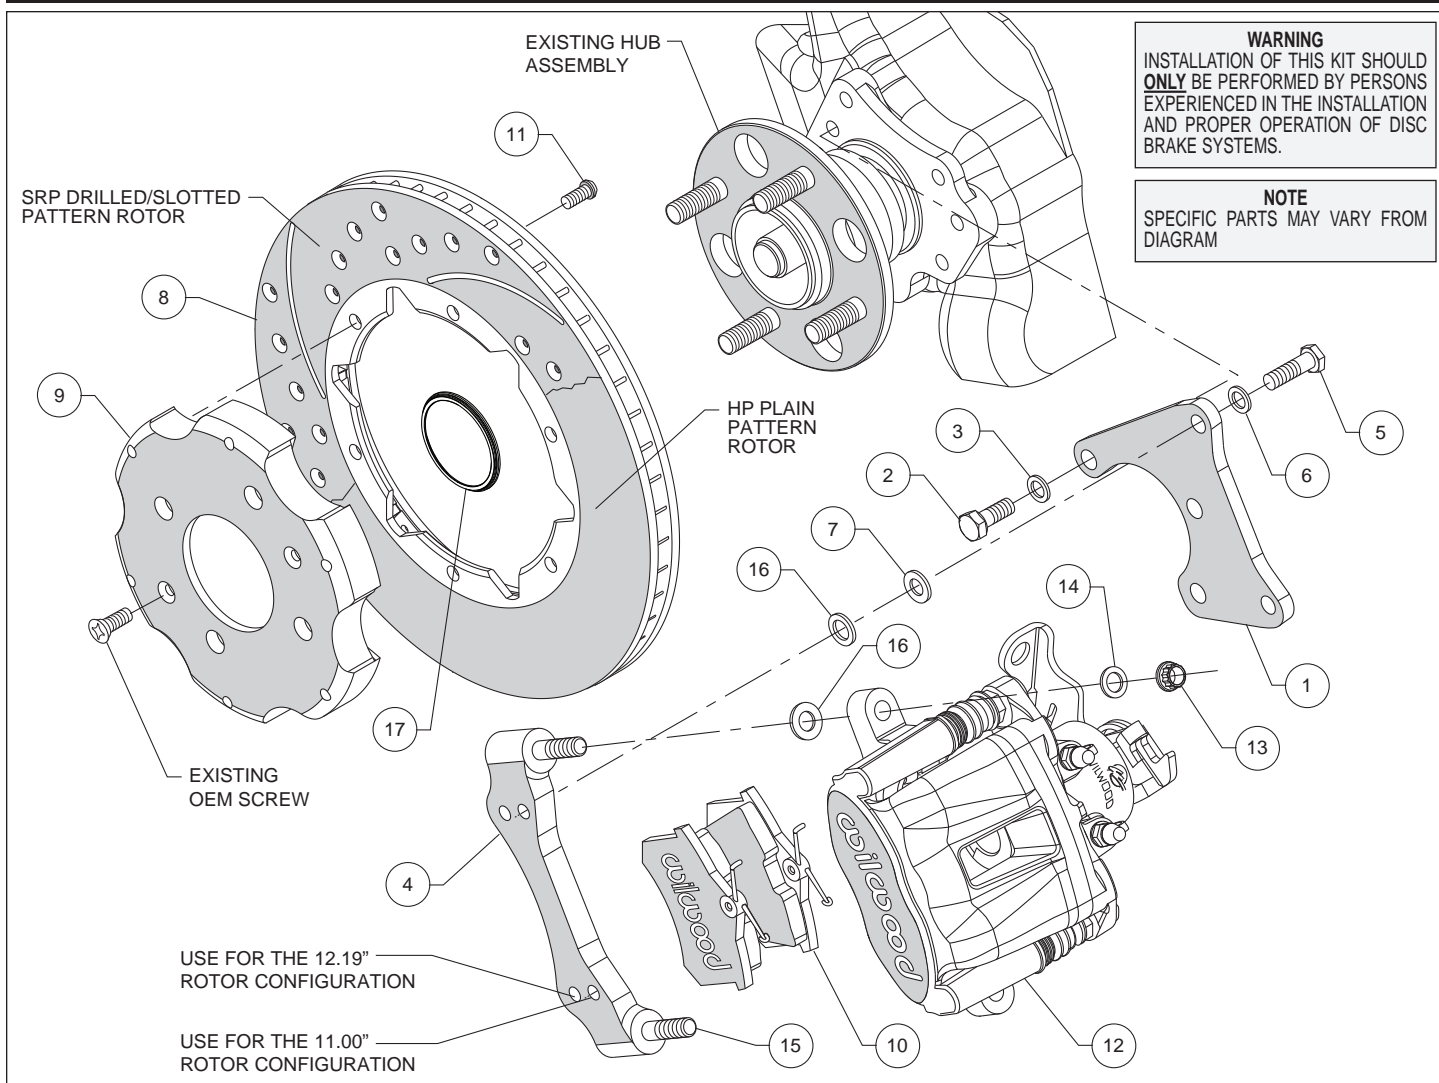

Figure 1. Typical Installation Configuration
- The flat axle bracket (1) should initially be installed with clean, dry threads on the mounting bolts. Orient the axle bracket as shown in Figure 1, and install using bolts (2) and washers (3). Temporarily tighten the mounting bolts. **NOTE: The bracket must fit squarely against the mount bosses on the upright.** Inspect for interference from casting irregularities, machining ridges, burrs, etc. Remove the bracket mounting bolts (2) one at a time, apply red *Loctite*[®] 271 to the threads, and torque to 40 ft-lb.
- The caliper bracket (4) should initially be installed with clean, dry threads on the mounting bolts. Orient the caliper bracket as shown in Figure 1, and attach to the axle bracket (1) using bolts (5) and washers (6). Initially place two .035" thick shims (16) between the two brackets, Figure 1. Temporarily tighten the mounting bolts. Later, after the caliper alignment has been checked, the mount bolts will be secured using red *Loctite*[®] 271.
- Orient the rotor (8) and hat (9) as shown in Figure 1 and Photo 1. Attach the rotor to the hat using bolts (11). Using an alternating sequence, apply red *Loctite*[®] 271 to the threads, and torque to 25 ft-lbs.
- Slide the rotor registration adapter (17) onto the axle register on the axle hub with the smaller O.D. facing outward, Photo 2.
- Install the brake pads (10) into the caliper (12) from the bottom, with the friction material facing the rotor, until the "v" spring clip snaps into place against the anvil, as shown in Figure 1 and Photo 3. They should install easily without interference.
- Lubricate the caliper mounting studs (15) with lightweight oil. Initially place two .035" thick shims (16) on each stud as shown in Figure 1. Mount the caliper (12) onto the bracket (4) using lock nuts (13) and washers (14), Figure 1 and Photo 4. Temporarily tighten the lock nuts and view the rotor from the end of the caliper. The rotor should be centered in the caliper, Photo 5. If not, adjust by adding or subtracting shims (7 and/or 16) between the axle bracket (1) and the caliper bracket (4). Always use the same amount of shims on each of the two mounting bolts. Once the caliper alignment is correct, remove the caliper bracket mounting bolts (5) one at a time, apply red *Loctite*[®] 271 to the threads, and torque to 35 ft-lb.
- Check that the top of the brake pad (10) is flush with the outside diameter of the rotor (8), Photo 6. If not, adjust by adding or subtracting shims (16) between the caliper and the bracket. After the caliper pad height is set, torque the caliper lock nuts (13) to 30 ft-lb.